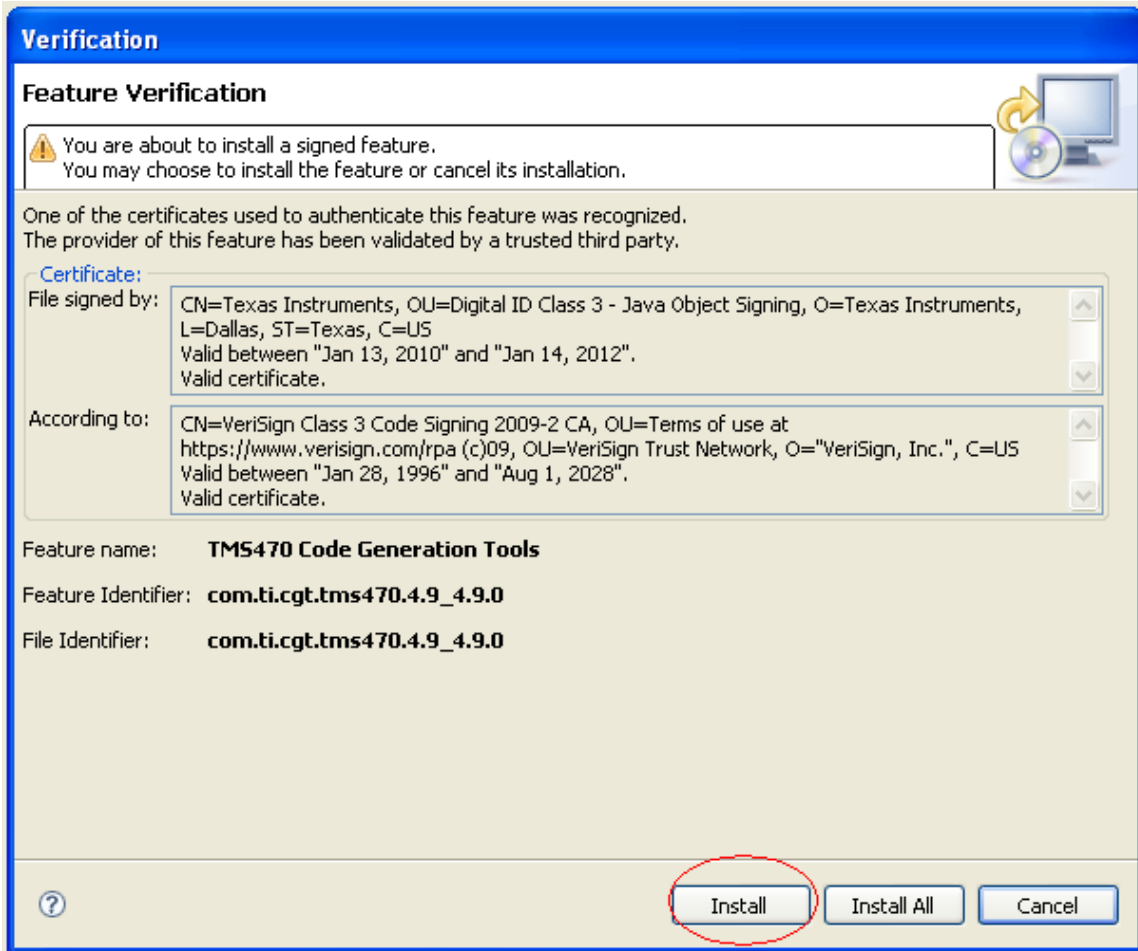

Figure 7. Verification Window
- Click on the Install button as shown in Figure 7. The verification screen appears next.